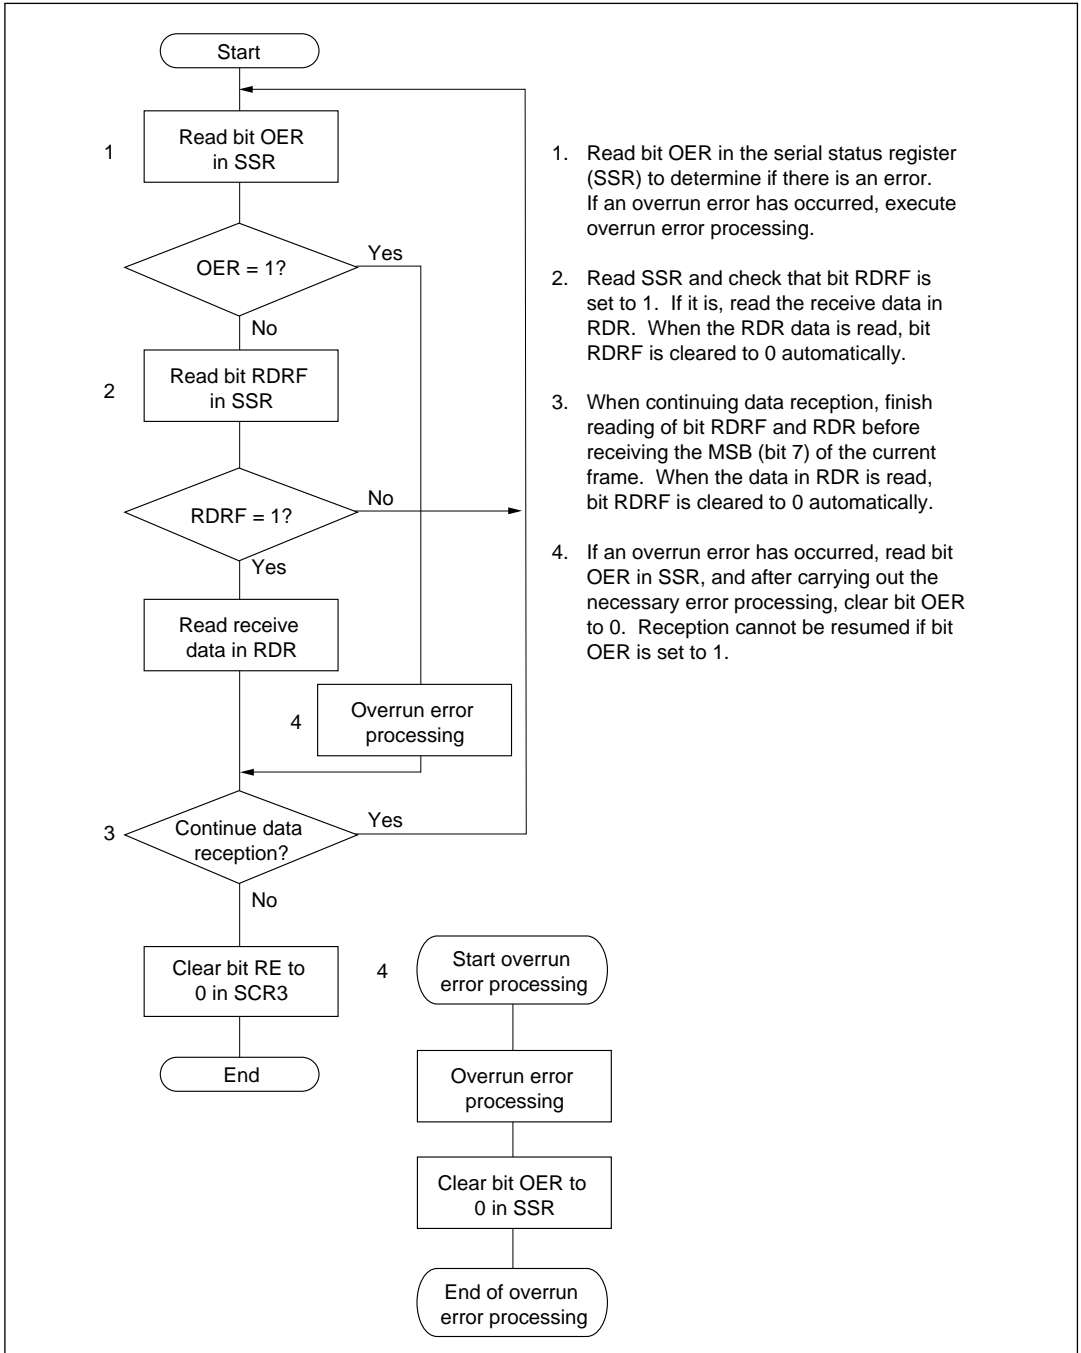

Figure 10-18 Example of Data Reception Flowchart (Synchronous Mode)
Figure 10-18 shows an example of a flowchart for data reception. This procedure should be followed for data reception after initializing SCI3.
4. If an overrun error has occurred, read bit OER in SSR, and after carrying out the necessary error processing, clear bit OER to 0. Transmission/reception cannot be resumed if bit OER is set to 1. See figure 10-18 for details on overrun error processing.